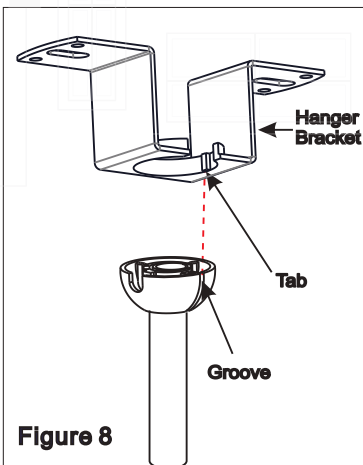

Figure 8
7. Carefully lift the fan, and set the downrod / hanger ball assembly on the hanger bracket attached to the ceiling joist. Be sure the groove in the ball is properly aligned with the tab on the hanger bracket. (Figure 8)